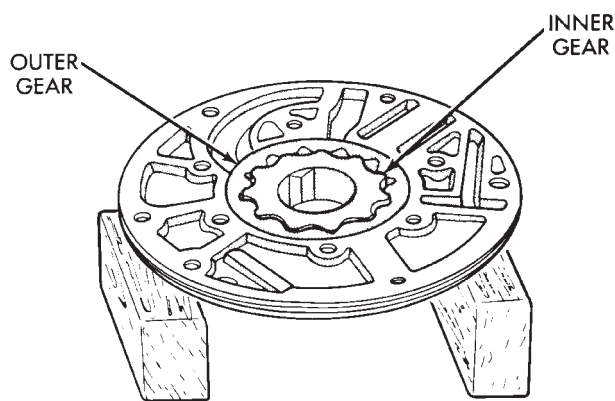

Fig. 53 Pump Inner Gear Installation
(5) Install pump inner gear (Fig. 53).